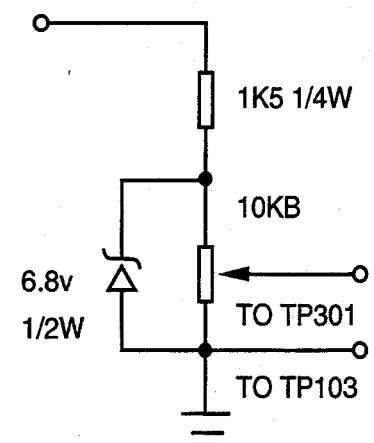

Fig. 2
5. Supply AGC bias to TP301 (See figure 2).